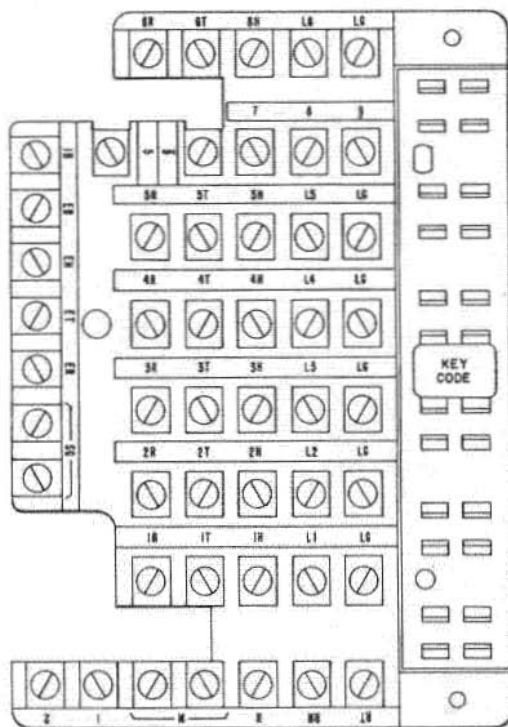

Fig. 3—Terminal Board for the 636B Key
**2.25** The 589Y and 636A use 814319836 (P-43A983) terminal board (Fig. 2). The 636B uses the 814454005 (P-44E400) terminal board (Fig. 3).